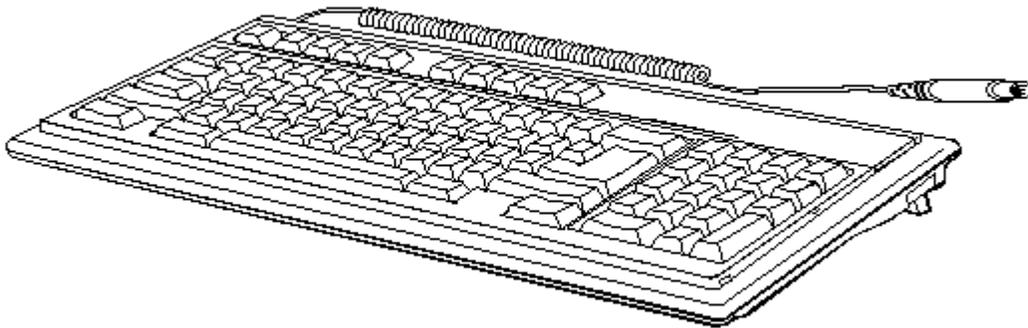

Figure 7-3. Keyboard Assembly
Table 7-2 lists the keyboard assembly for the COMPAQ PORTABLE 386 Personal Computer, which is illustrated in Figure 7-3.
* Not shown in Figure 7-3.